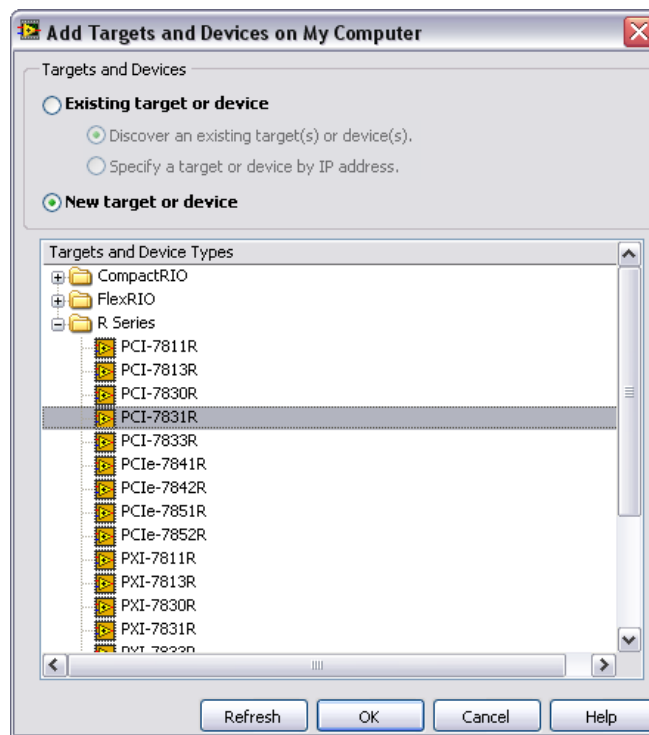

Figure 2-11. Add Targets and Devices Dialog
3. Referring to Figure 2-11, when would you select New target or device?